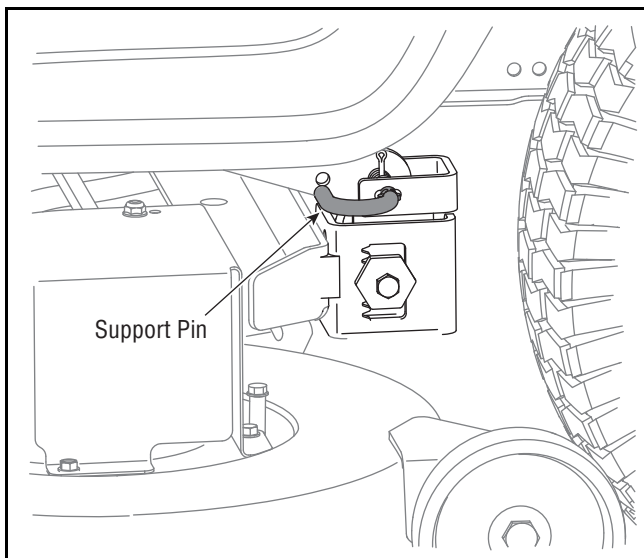

Figure 22
- Pull the deck support pin outward to release the deck from the deck lift arm. See Figure 22.